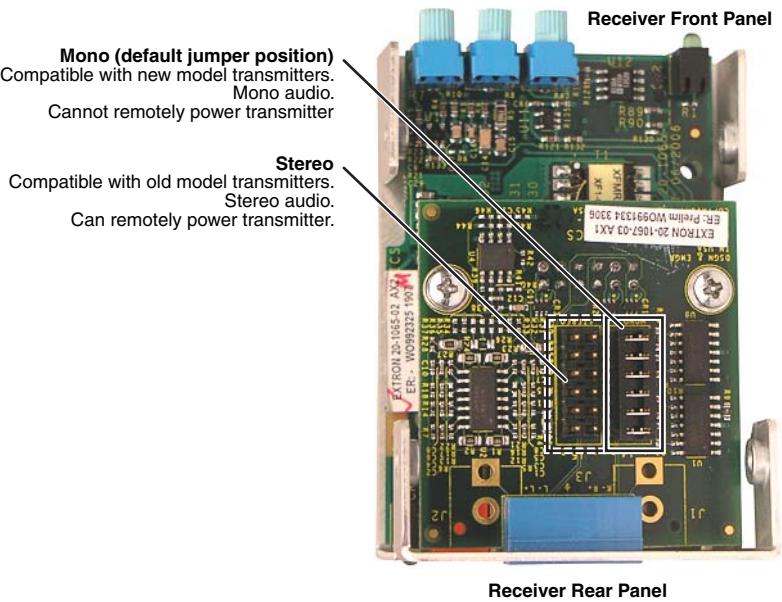

Figure 2-4 — Receiver audio board jumper locations
7. If the receiver is an audio unit, locate the jumper block on the audio board (figure 2-4). Shift the jumper to the alternate location.